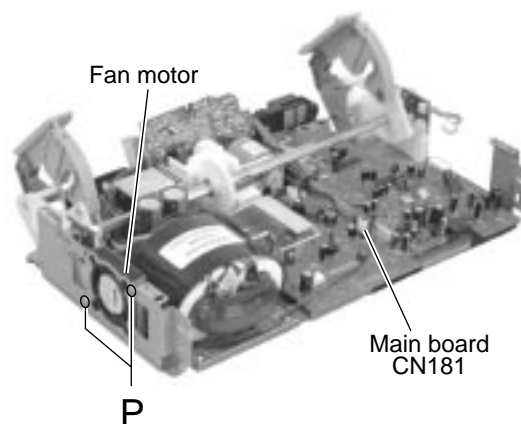

Fig.25
■Removing the fan motor assembly (See Fig.25 and 26)